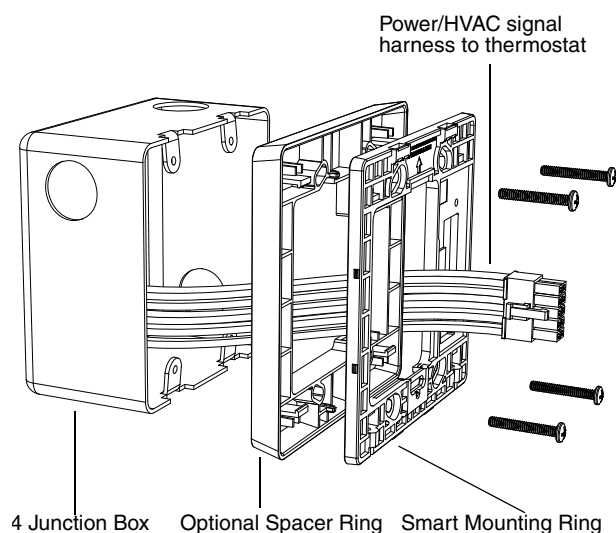

Fig. 1. e7 Exploded View Assembly Reference
1. Position the optional spacer ring (if used) and Smart Wall Mounting Plate as shown in Fig. 1.